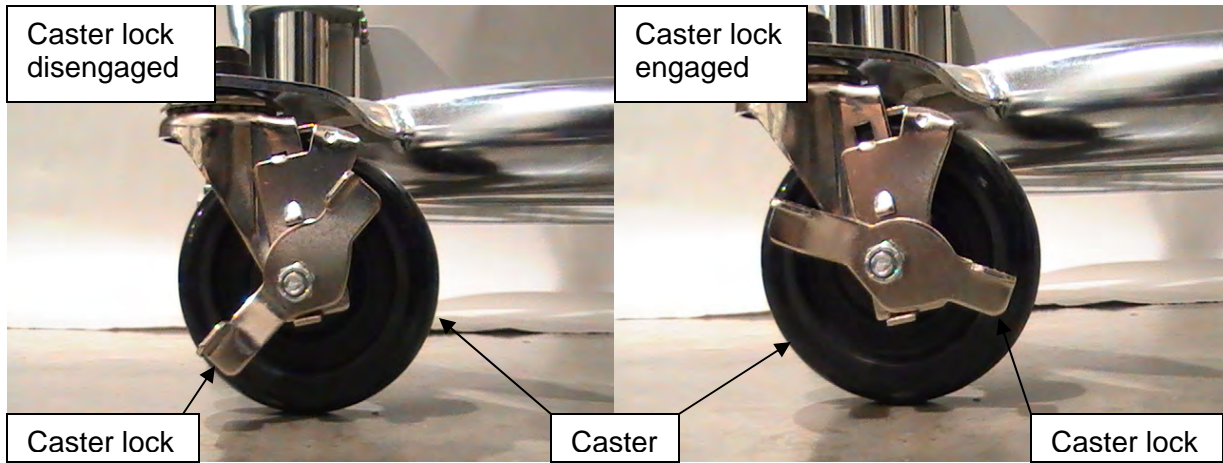

**Figure 5**
16. Insert the base adjustment lever into its socket at the back of the lifter base. Check to see that the positioning ball on the outside of the base of the adjustment lever fits securely in the socket (see Figure 5).
17. To adjust the lifter base with casters, unlock the legs by pulling back on the adjustment lever. Move the lever to the right in order to widen the base (see Figures 5 & 8).